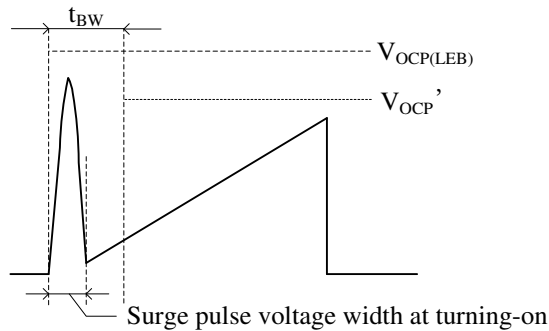
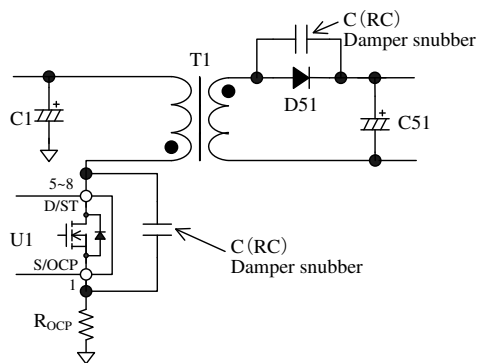

Figure 10-12. S/OCP Pin Voltage
Figure 10-13. Damper Snubber
During Leading Edge Blanking Time, the OCP threshold voltage becomes $V_{OCP(LEB)} = 1.69\text{ V}$ which is higher than the normal OCP threshold voltage as shown in Figure 10-12. Changing to this threshold voltage prevents the IC from responding to the surge voltage in turning-on the power MOSFET. This function operates as protection at the condition such as output windings shorted or unusual withstand voltage of secondary-side rectifier diodes.
When the power MOSFET turns on, the surge voltage width of the S/OCP pin should be less than t_{BW} , as shown in Figure 10-12. In order to prevent surge voltage, pay extra attention to R_{OCP} trace layout (see Section 11.2). In addition, if a C (RC) damper snubber of Figure 10-13 is used, reduce the capacitor value of damper snubber.